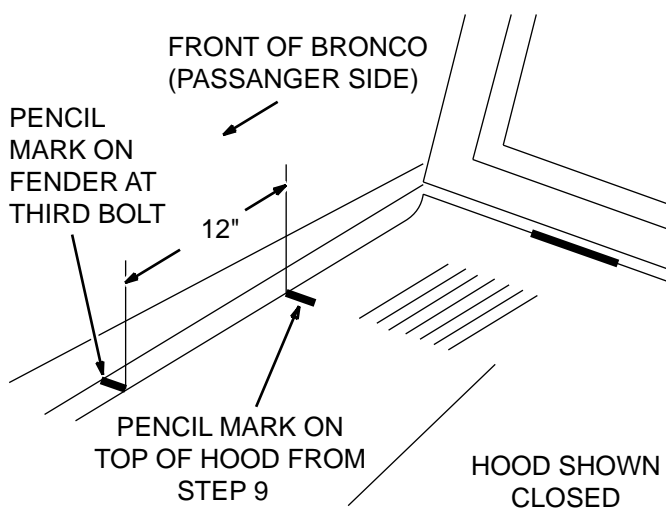
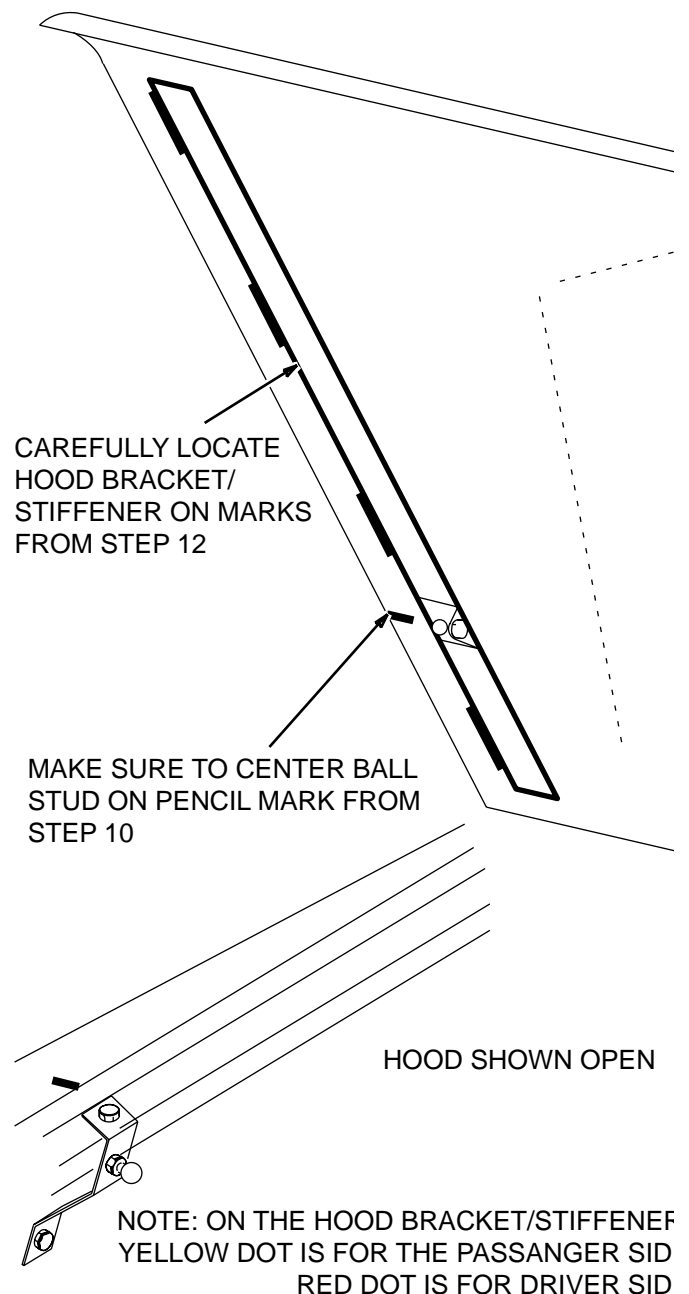

Figure 4
Figure 8
9. Close the hood and measure 12" from the fender bolt mark, towards the rear of the hood and make a mark on the edge of the hood. See Figure 4.
13. Prepare the supplied adhesive according to the instructions included inside the adhesive's packaging. Liberally apply prepared adhesive to the cleaned area where the hood bracket/stiffener will be attached (Figure 4). Locate the hood bracket/stiffener on the marks made in step 12, making sure to locate the ball stud on the mark as shown in Figure 8. Work quickly and attach the hood bracket/stiffener before the adhesive dries.